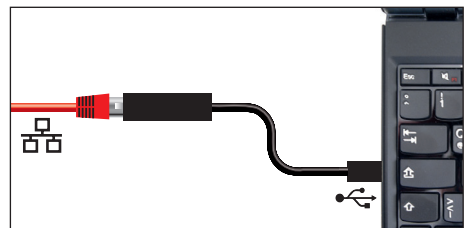

Fig. 8 USB to Ethernet converter
- ▶ USB to Ethernet converter (Fig. 8). Makes it possible to connect the Ethernet connection interface of the appliance (see page 13) to the USB port of a computer/laptop.